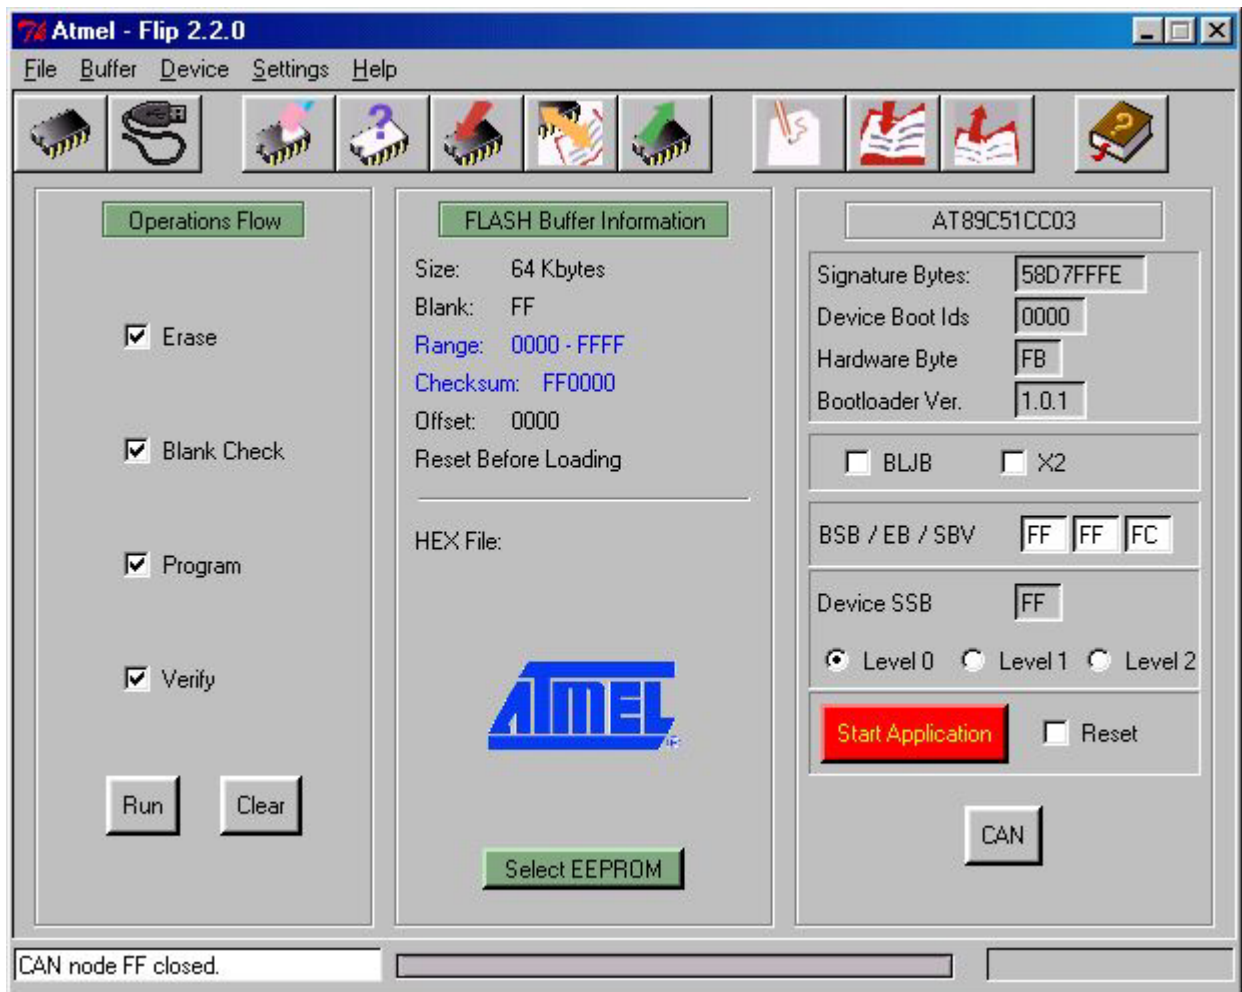

FIGURE 24: FLIP SETTINGS WINDOWS (3 OF 3)
- B9) Make sure that text boxes in the frame "AT89C51CC03" fill with text, like in figure 24.